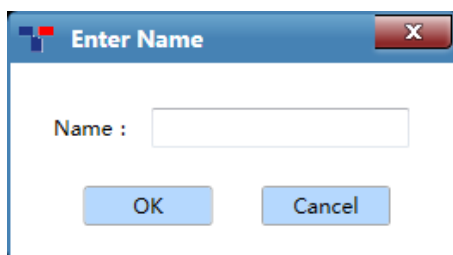

Figure D- 9.2b Abs Quant analysis interface - Enter Name dialog box
- < **Save Std Curve** >: user can click < **Save Std Curve** > and enter a name in the enter name dialog box for the standard curve file to save; click < **OK** > to confirm, as shown in figure D-9.2b.